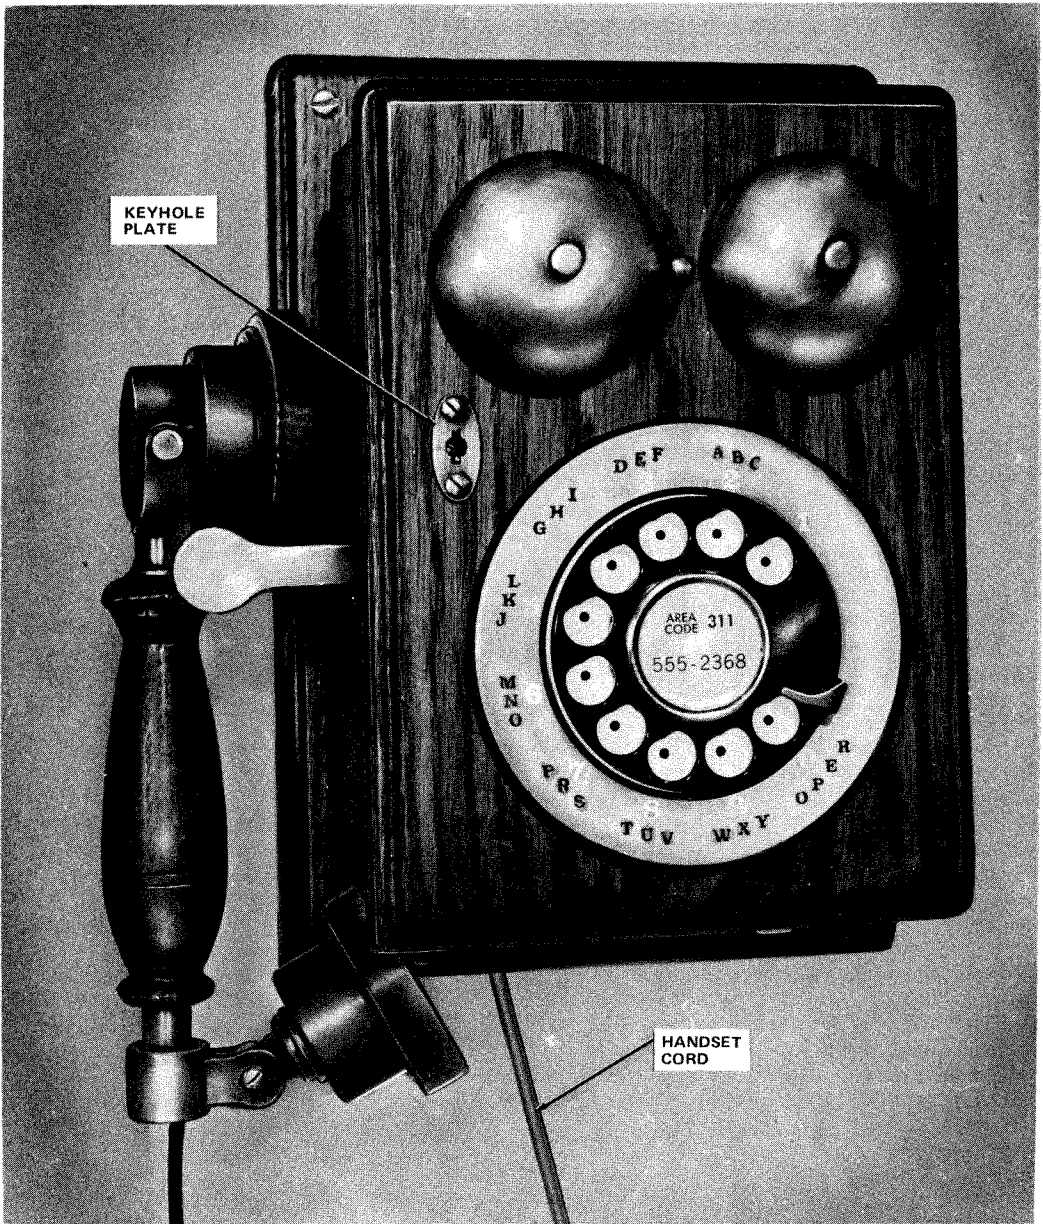

Fig. 1—951A1-03 DESIGN LINE Telephone Set
**1.01** This section contains information on the 951A1-03 DESIGN LINE\* telephone set (*Country Junction\**). This set is a simulated antique wall telephone set (Fig. 1).
**2.06** The handset assembly is a special antique design (Fig. 1).
**3.03** To gain access to the interior of the set for wiring changes, insert a small standard blade screwdriver into the key-hole plate on the front of the telephone set (Fig. 1) and turn the